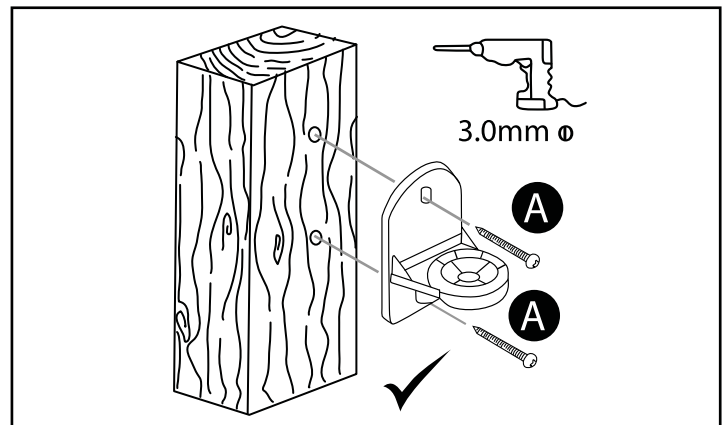

Figure 6
B. Installing in Timber Post (See Figure 6).
3. Attach the wall plate using long screws (A) 1 1/2" No.B Woodscrew. Do not over tighten.